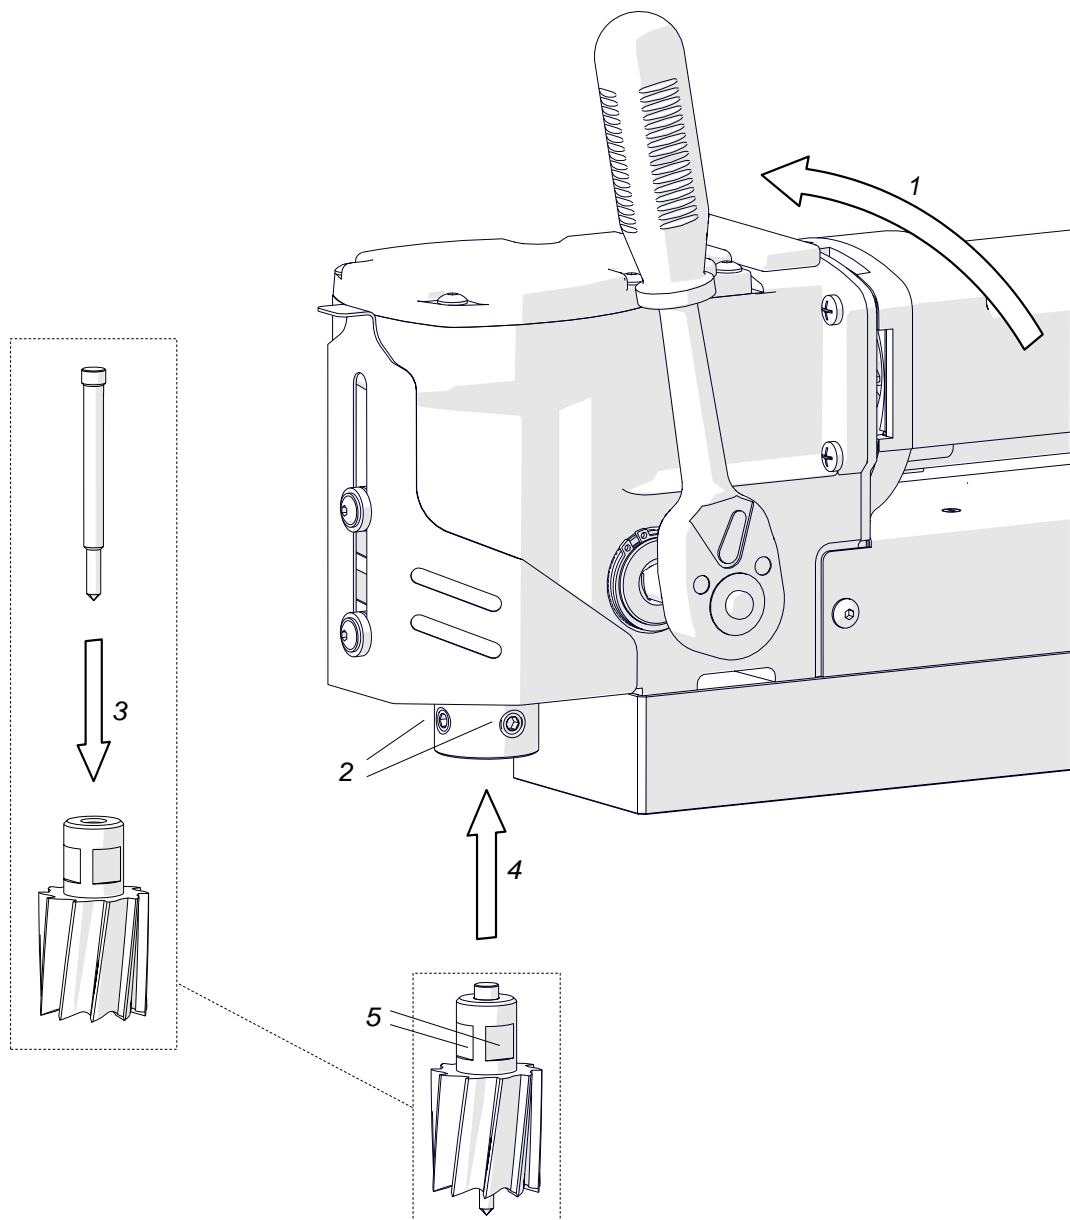

Fig. 2. Installing the annular cutter
Unplug the machine from the power source, raise the chip guard, and then rotate the handle to the left (1, Fig. 2) to access the set screws (2). Next, wear protective gloves, insert the required pilot pin into the annular cutter (3), and then use a clean and dry cloth to wipe the arbor and cutter. Next, place the cutter into the arbor (4) so that the flats (5) are aligned with the set screws (2), and then use the 4 mm hex wrench to tighten both set screws.